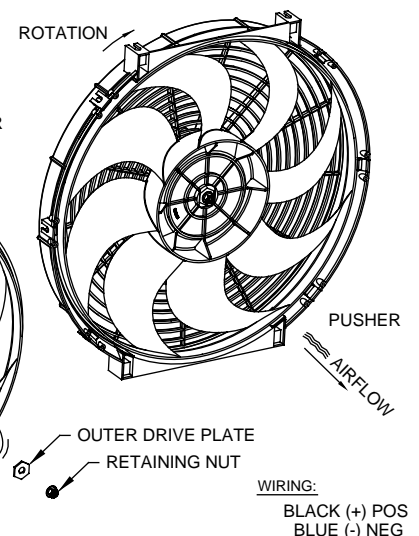

FIGURE 5
3. After seating blade, replace nut. Pusher configuration should look as shown in figure 5. Note: Fan wiring changes to black (+) POS and Blue (-) NEG.